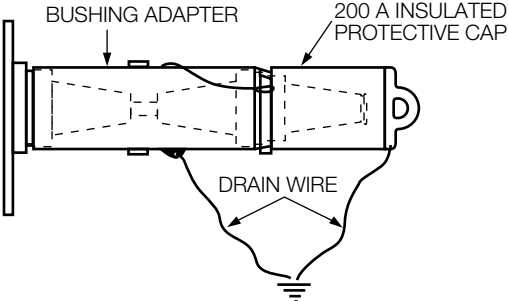

Figure 5. Drain wire connection
- Connect apparatus drain wire to common ground point leaving adequate slack for hotstick operation. (Refer to Figure 5.)